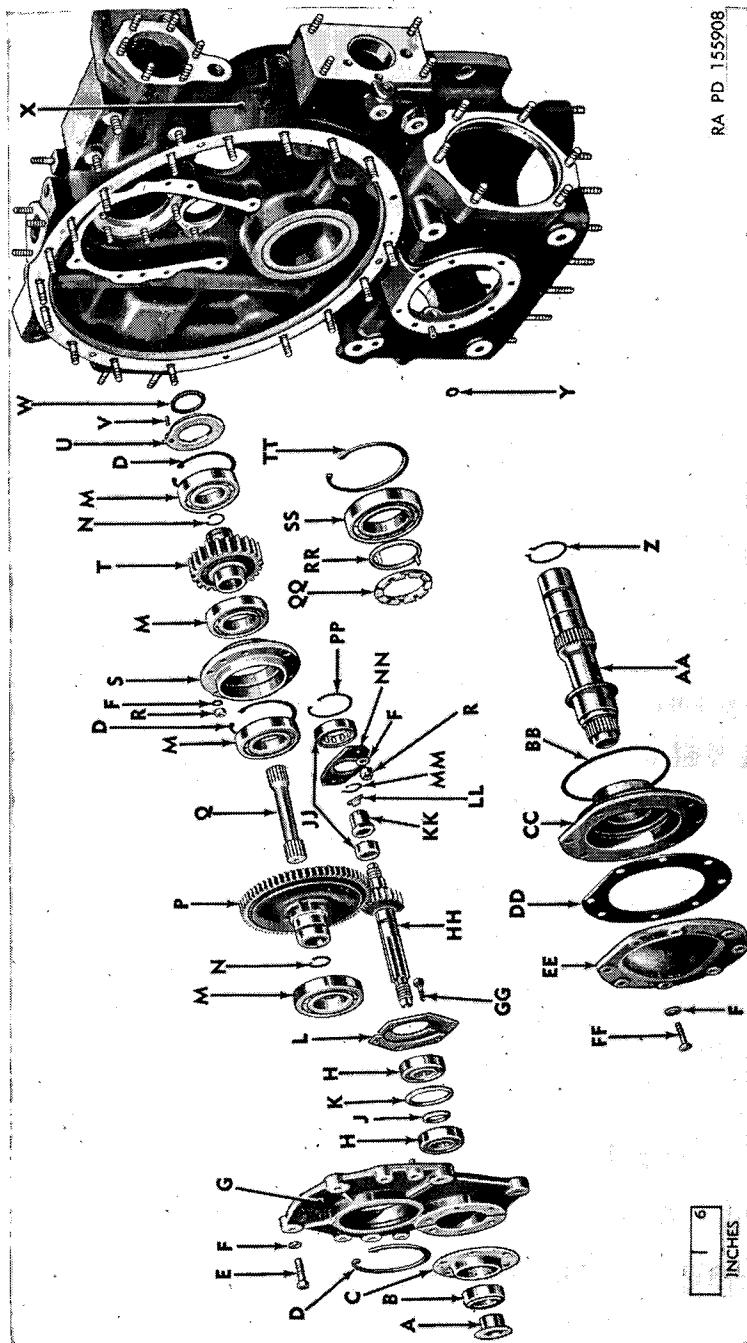

Figure 38. Accessory case—front—exploded view.
- a. *Diaphragm, Impeller Shaft, and Fan Drive Gear* (fig. 38).
- (1) *Disassembly.*
- (a) Remove the safety wire and six drilled-hex-head bolts from both halves of impeller driven gear ball bearing retaining plate (L) for the impeller driven gear duplex ball bearings (H).
- (b) Press the impeller driven gear (HH) and the duplex bearing out of the accessory case diaphragm assembly (G).
- (c) Gently tap the impeller driven gear oil seal housing (C) and remove it from the diaphragm with the impeller driven gear carbon oil seal (B). Press out the oil seal.
- (d) Press the duplex impeller driven gear ball bearings (H) and their inner and outer bearing spacers (J) and (K) from the impeller end of the driven gear.